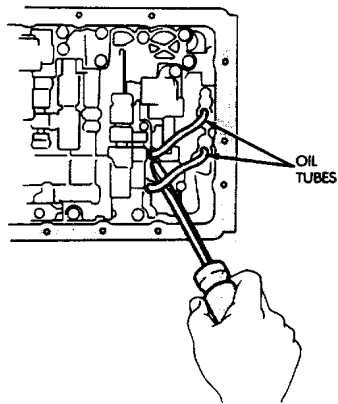

Fig. 8 Removing Valve Body Oil Tubes
(13) Remove valve body oil feed tubes (Fig. 8).